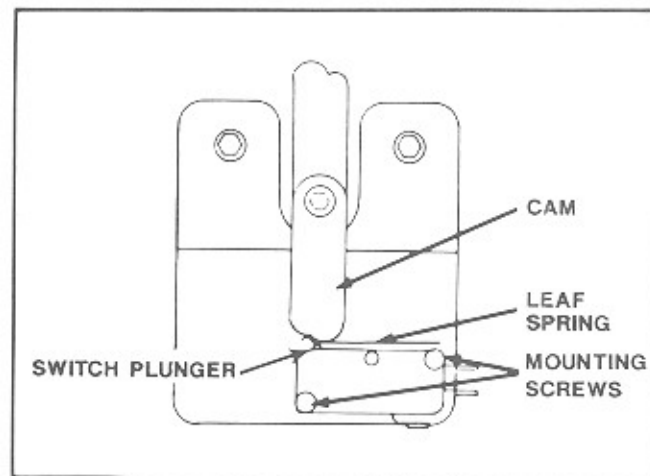

Figure 6-13. Cam Switch Adjustment
2. To adjust switches, loosen mounting screw under plunger end and move the switch housing as required (see figure 6-13).